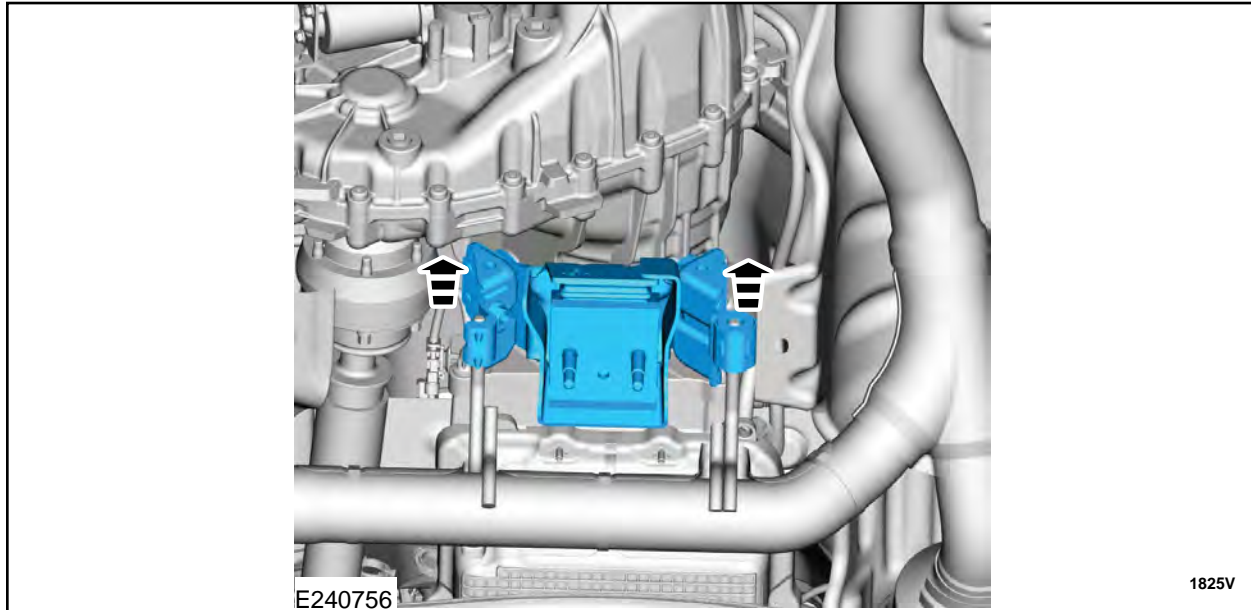

FIGURE 29
46. Remove the transmission support insulator. See Figure 29.